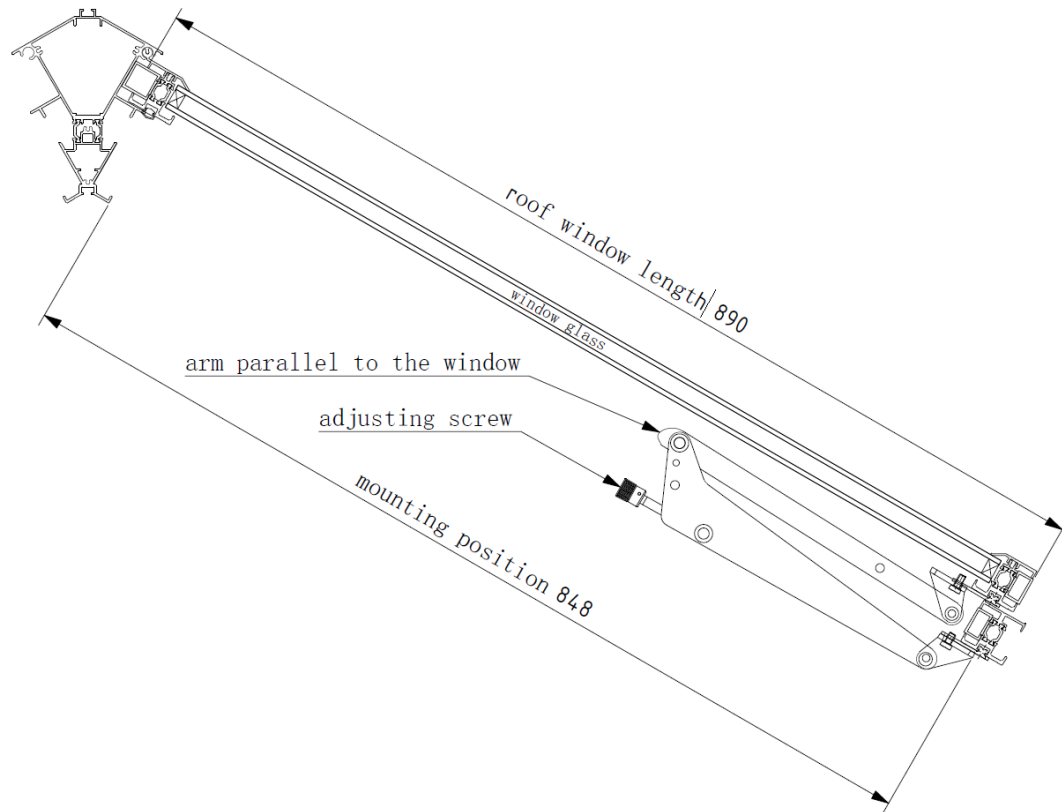

fig. 66
- turn the adjusting screw to set the parallelism of the window opener! (*fig. 66*)